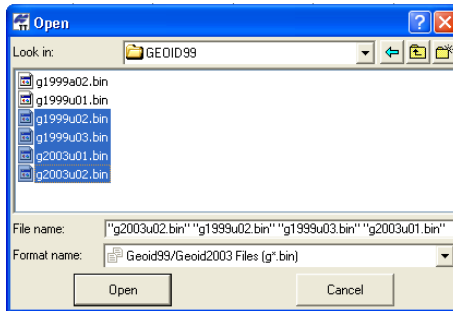

Figure 2-27. Open and Add Geoid List
2. On the *Open* dialog box, navigate to the location of the geoids list and click **Open** to add the new geoid model to the Topcon Tools geoids list (Figure 2-27 on page 2-18).